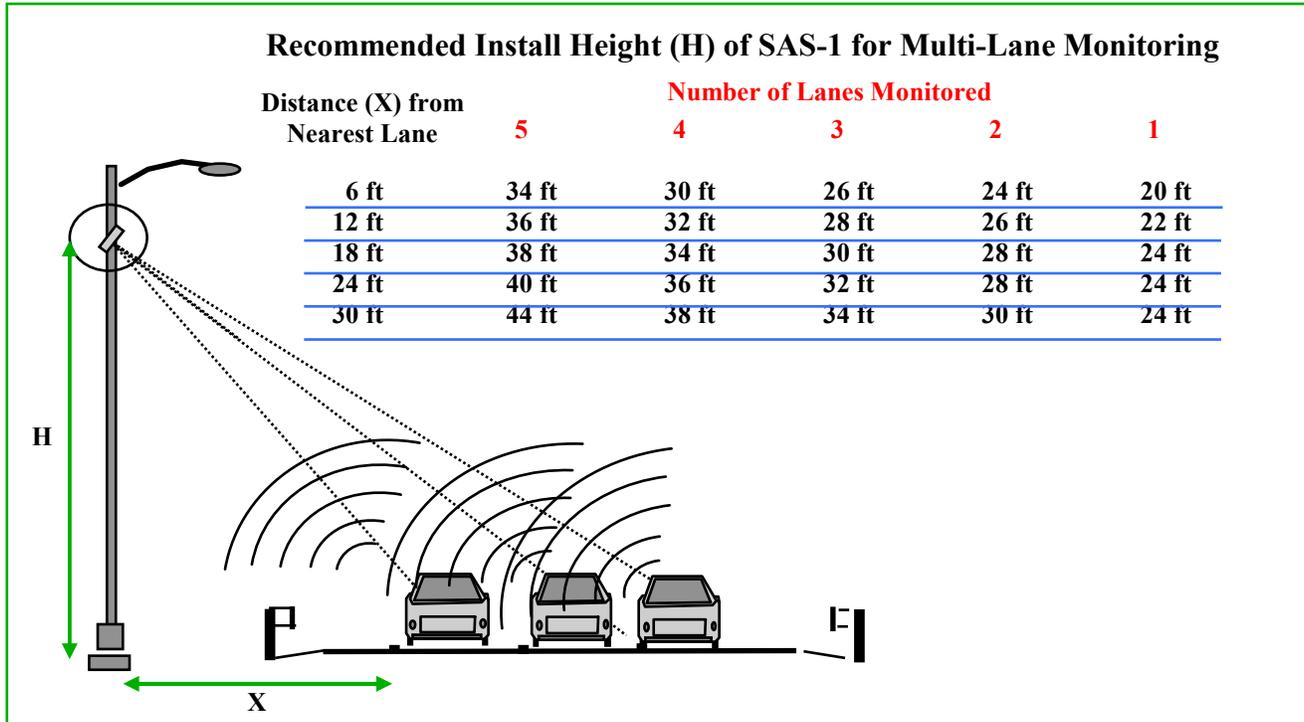

Figure 1 SAS-1 Mounting Position Recommendations
From the “side fire” position, the SAS-1 can provide effective lane by lane monitoring for up to five (5) lanes. The typical mounting height (Figure 1) for the SAS-1 should be 25 to 35 feet (at least 34 ft if four or five lanes are to be monitored). The horizontal distance from the first active lane should be nominally 10 to 20 feet. Mounting the SAS-1 just off the shoulder is a good position. Higher mounting positions reduce possible occlusion of smaller vehicles by tall trucks.